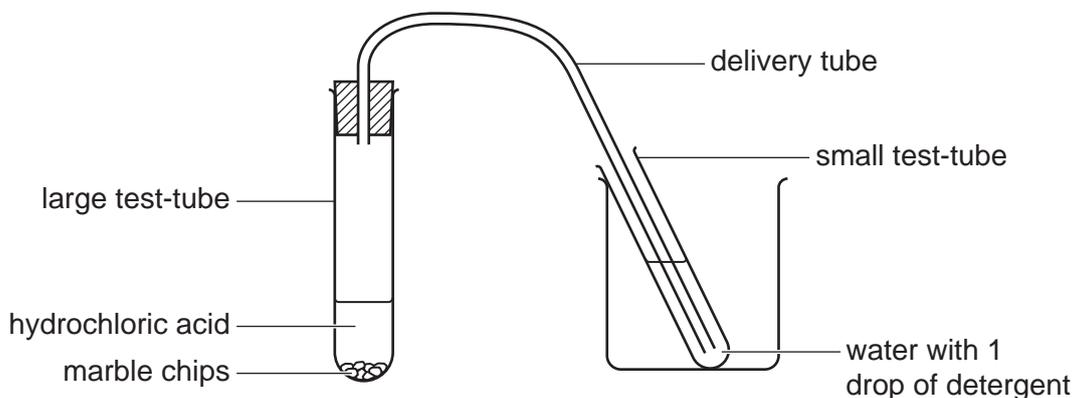

Fig. 5.1
- Quickly connect the large test-tube to the test-tube containing water and detergent using a delivery tube as shown in Fig. 5.1.